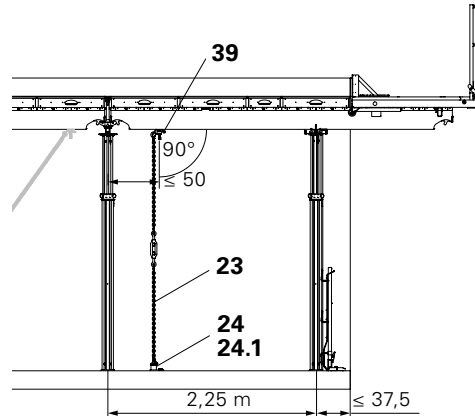

Fig. A8.01
Mount Tension Sleeve SAO (39) on main beam. Distance to inner prop max. 50 cm. Brace using Anchor Chain (23), Base Plate (24) and Anchor Bolt (24.1). (Fig. A8.01)
Max. slab overhang: 37.5 cm. (Fig. A8.01 + A8.02)